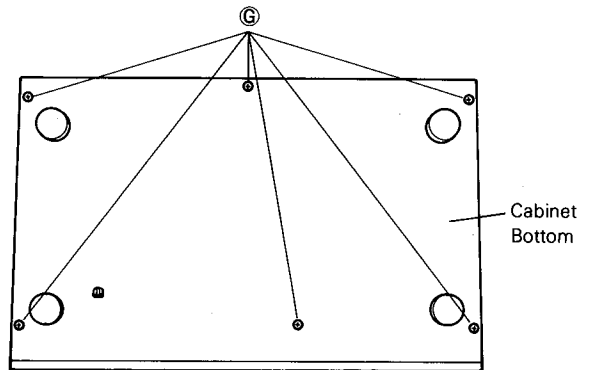

Fig. 4
Remove the Cabinet Top and Cabinet Bottom, six screws (G). (Fig. 4)